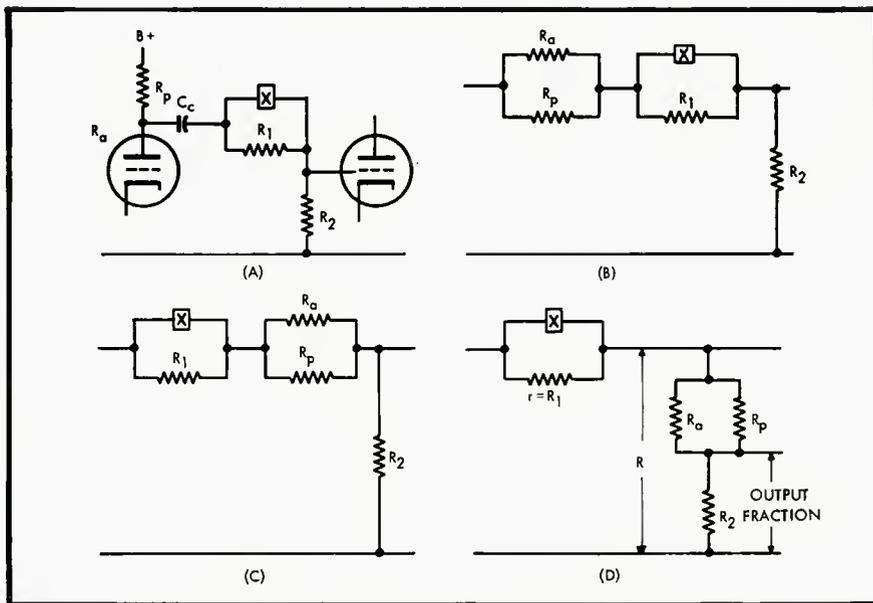

Fig. 15. Step by step reduction of practical circuit to basic network, for arrangements of (A) in Fig. 1, or (A) or (C) in Fig. 7.
tion of (A) in Fig. 1 which can also be applied to the peaking circuit of (A) in Fig. 7 or the dip circuit of (C) merely by substituting in the right values of reactance. The commonest application of these circuits is between two stages of amplification as illustrated at Fig. 15. This might be reduced to the form of the ideal arrangement of (A) in Fig. 1 or (A) and (C) of Fig. 7 by the transposition shown in Fig. 15.
First the source resistance produced by the parallel combination of the plate resistance of the preceding tube with its plate coupling resistance is calculated and represented as a series source or input resistance to the network. As the frequency discriminating portion is connected across just the resistance element R_1 the voltage distribution across the rest of the resistances in the circuit—that is, the source resistance and the output resistance R_2 , will be uniform and the result will be precisely similar to that attained if the position of the source resistance and the series frequency modifying component consisting of R_1 and the reactance element is transposed as in (C) of Fig. 15. This can then be rearranged to show the behavior of the circuit more explicitly as at (D).